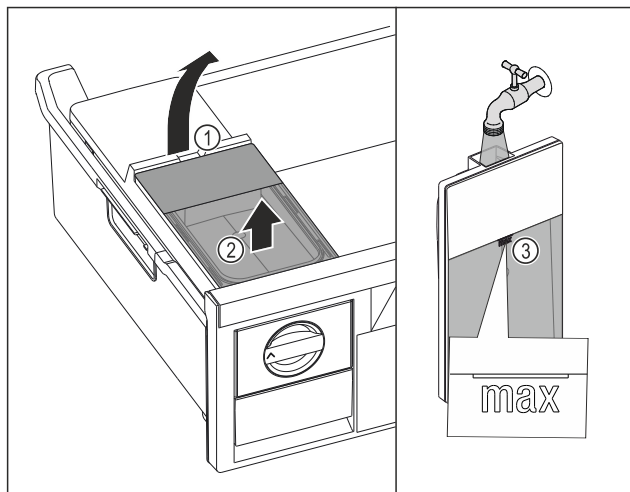

Fig. 98
- Lift the water tank at the recess Fig. 98 (1).
- Remove the water tank by lifting it upwards. Fig. 98 (2)
- Fill the water tank with drinking water up to the mark Fig. 98 (3).